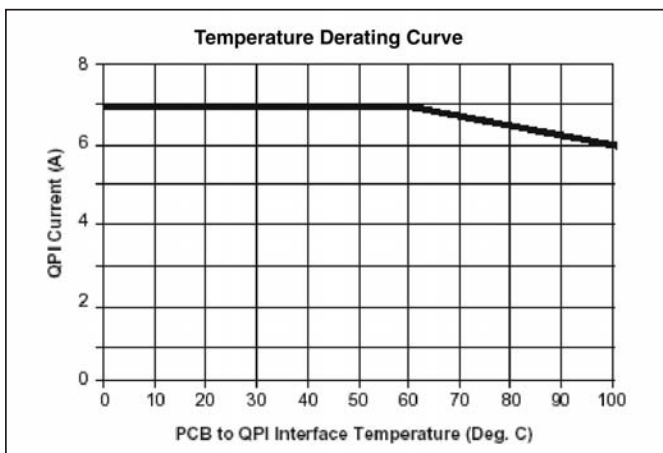

Figure 6 – Current vs. PCB temperature derating curve.
- -40° to +100°C PCB temperature (see *Figure 6*)
Note 1: See Figure 6 for current derating curve.